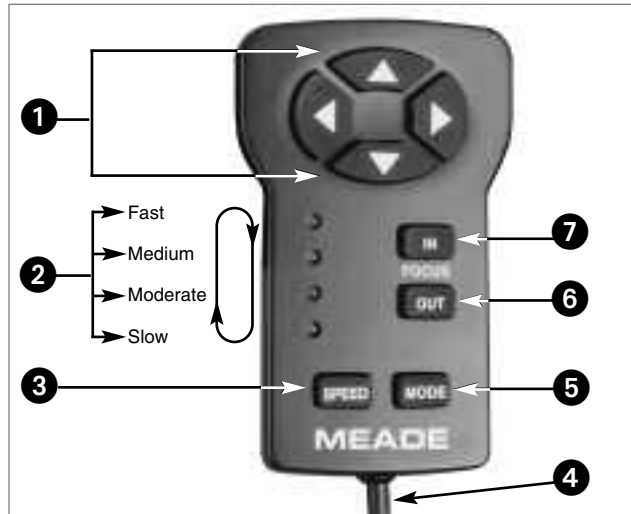

Fig. 49: Electronic Controller. (1) Arrow Keys; (2) Indicator Lights; (3) SPEED Key; (4) Coil Cord; (5) MODE Key; (6) OUT Key; (7) IN Key.
Some LXD75 models (designated with an "EC," for example, AR-5EC) come equipped with an Electronic Controller (EC) handbox, rather than the Autostar Handbox. The Electronic Controller provides you with the means to control the telescope motors from a compact handbox. The Electronic Controller (Fig. 49) has soft-touch keys designed to have a positive feel, even through gloves.
The following numbers refer to Fig. 49 above.
- 3 SPEED Key:** Press SPEED to change the speed at which the telescope slews to an object. Each press of the SPEED key changes the slew speed to the next slower setting. If the controller is already on the slowest slew speed (light 4), pressing SPEED cycles back to the highest speed (light 1). Slew speeds are signified by the indicator lights (2, Fig. 49).
4. Plug in the Electronic Controller coil cord (4, Fig. 49) to the HBX port (24A, Fig. 1) on the Computer Control panel.
8. Use the four Arrow keys (1, Fig. 49) to slew the telescope to the desired object. To change the slew speed, press SPEED.
For objects, like the Moon or a comet, that move at slightly different rates, the Electronic Controller Arrow keys (1, Fig. 49) are sufficient to move the telescope slightly as the object very slowly moves off-center through the eyepiece field.
1. Press and hold MODE (5, Fig. 49) until the Mode function is active (*i.e.*, lights 1 and 2 are on steady; lights 3 and 4 signify whatever tracking mode was last chosen).
2. Press SPEED (3, Fig. 49) until lights 1, 2, and 3 are on steady with light 4 blinking. The telescope is now in the Northern Hemisphere polar mode.
3. Press IN (7, Fig. 49) and light 4 comes on steady. The tracking rate is now 0.5% *faster* than sidereal. If the object you're tracking is moving faster than the sidereal rate, look through the eyepiece and press IN. Each time you press IN, the tracking rate increases by 0.5%. **Note that when the Mode function is active, the tracking motor stops. To restart the tracking motor, press MODE again.** Experiment with this function to get the right speed: Press IN to set the tracking rate. Then press MODE and look through the eyepiece. Continue pressing IN and MODE until the object remains centered with little or no drifting in the eyepiece.
4. To use a rate slower than sidereal, press OUT (6, Fig. 49) until light 4 blinks again (sidereal rate). Press OUT again and light 4 goes out, signifying a tracking rate 0.5% *slower* than sidereal. **Note that when the Mode function is active, the tracking motor stops. To restart the tracking motor, press MODE again.** Experiment with this function to get the right speed: Press OUT to set the tracking rate. Then press MODE and look through the eyepiece. Continue pressing OUT and MODE until the object remains centered with little or no drifting in the eyepiece.
6. Use the four Arrow keys (1, Fig. 49) to slew the telescope to the desired object. To change the slew speed, press SPEED.
1. Press and hold MODE (5, Fig. 49) until the Mode function is active (*i.e.*, lights 1 and 2 are on steady; lights 3 and 4 signify the tracking mode last chosen).
2. Press SPEED (3, Fig. 49) until lights 1 and 2 are on steady, light 3 is off, and Light 4 is blinking.
3. Press IN (7, Fig. 49) and light 4 comes on steady. The tracking rate is now 0.5% *faster* than sidereal. **Note that when the Mode function is active, the tracking motor stops. To restart the tracking motor, press MODE again.** Experiment with this function to get the right speed: Press IN to set the tracking rate. Then press MODE and look through the eyepiece. Continue pressing IN and MODE until the object remains centered with little or no drifting in the eyepiece.
- To use a rate slower than sidereal, press OUT (6, Fig. 49) until light 4 blinks again (sidereal rate). Press OUT key and light 4 goes out, signifying a tracking rate 0.5% slower than sidereal. **Note that when the Mode function is active, the tracking motor stops. To restart the tracking motor, press MODE again.** Experiment with this function to get the right speed: Press OUT to set the tracking rate. Then press MODE and look through the eyepiece. Continue pressing OUT and MODE until the object remains centered with little or no drifting in the eyepiece.
- Use the four Arrow keys (1, Fig. 49) to slew the telescope to the desired object. To change the slew speed, press SPEED.